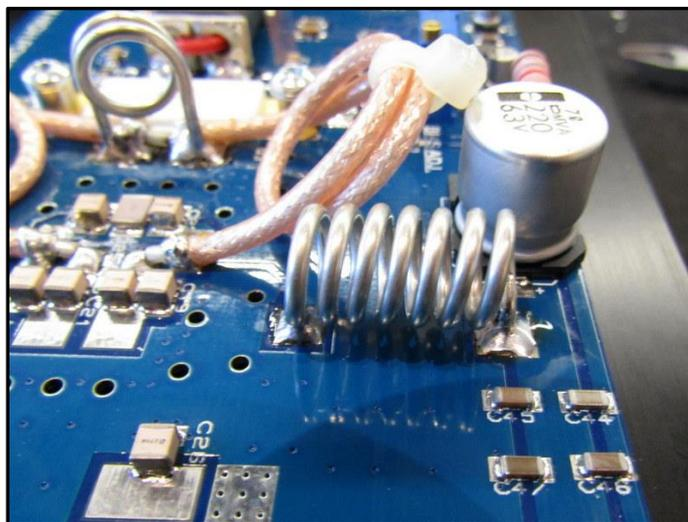

*Figure 8: Transistor coax position.*
12. Cut a 63mm length of the 16SWG tinned copper wire and wind around a 7.5mm drill bit to form a 1.5 turn coil with 5mm leads, as in figure 8. Solder this coil across the transistor output pads as in figure 9. Take care the windings of the coil don't touch the coax outer braids. This is L4, the drain coil of the amplifier.